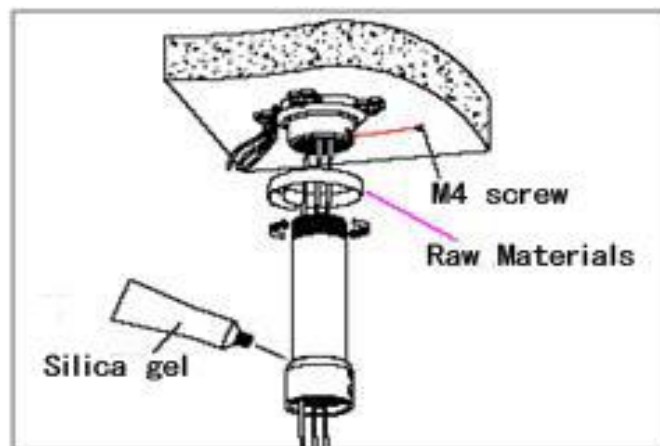

Fig 2.5
c. As shown in the fig 2.5 attach the boom to the Base of ceiling (base plate) and tighten the security M4 screw.